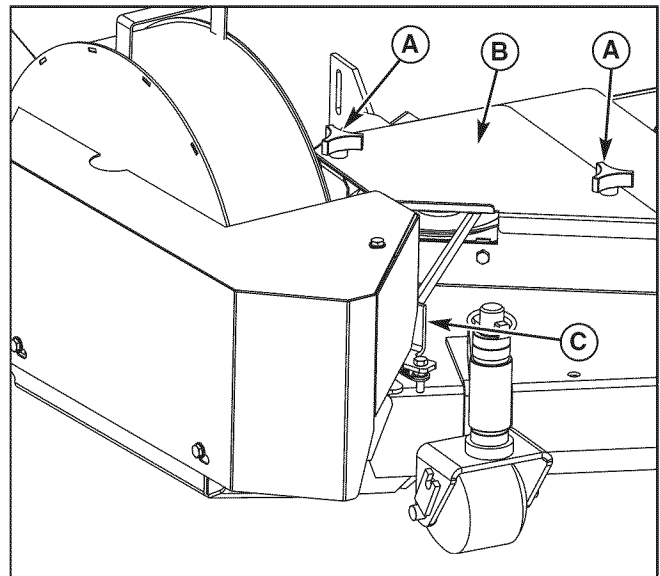

Figure 55. Remove the Belt
1. Remove the knobs (A, Figure 55) securing the deck guard top (B) to the deck guard.
2. Pull the blower idler arm lever (C) forward to release the belt tension and remove the belt from the spindle pulley.